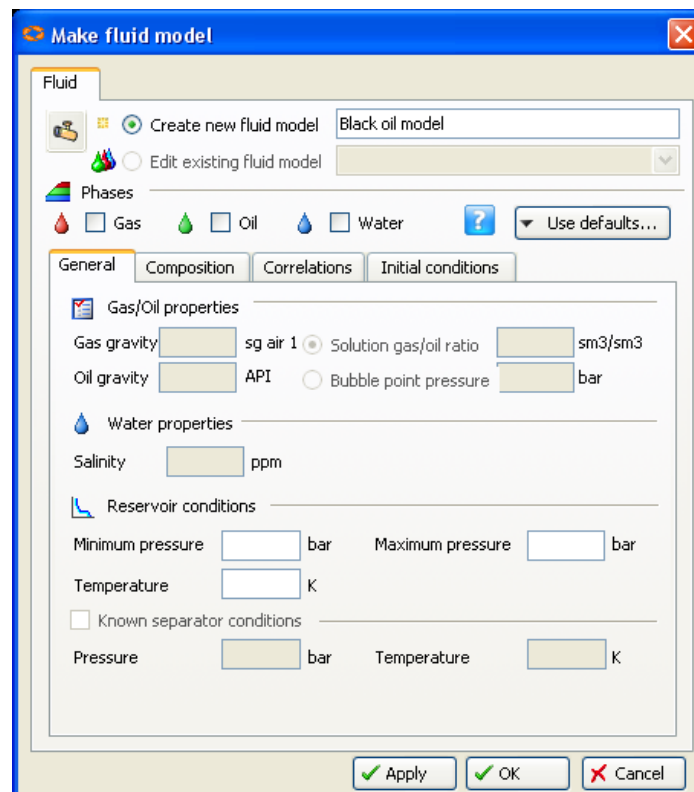

Fig.23.1: Make fluid model dialog
1. In the Processes pane, open **Simulation** and select **Make fluid model**. This opens the **Make fluid model** dialog. As shown in Fig.23.1.